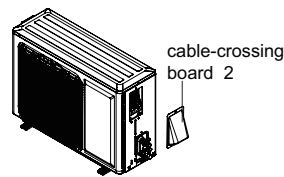

Fig.21
- (1) Remove the screw on the cable-crossing board 2 of outdoor unit and then remove the cable-crossing board 2.(As show in Fig.21)